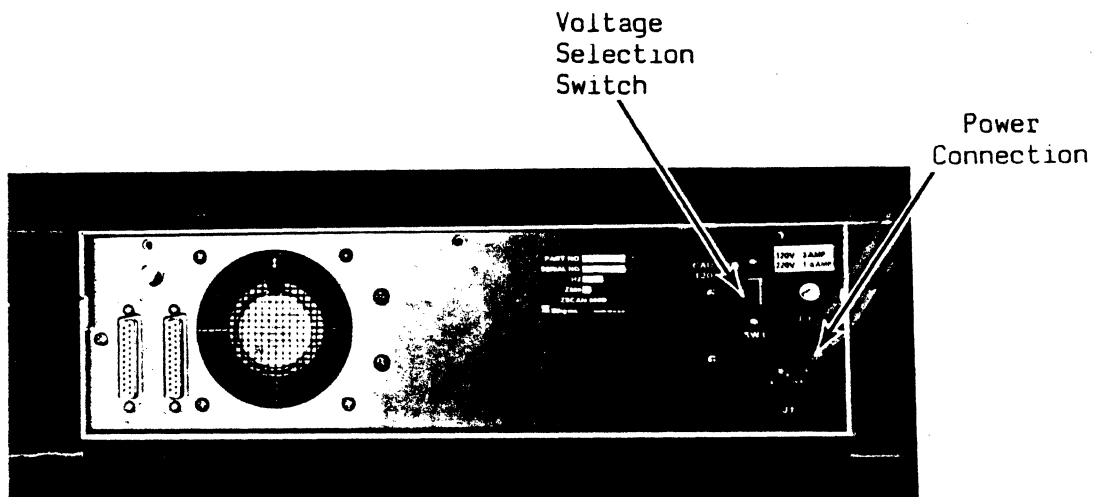

Figure 3-4. Z-SCAN Rear Panel
2. Locate the 115/220 voltage selection switch on the Z-SCAN rear panel and verify that it is set correctly for the electrical power source to be connected to the Z-SCAN system. Refer to Figure 3-4 for the approximate location of the voltage selection switch.
The U.S. power cord meets the U.S. National Electrical and Manufacturing regulations and is suitable for use in the United States only. This power cord is identified by the molded plug attached to the cord and is ready to be connected to the Z-SCAN unit. Figure 3-4 identifies the location for the power connection on Z-SCAN's rear panel.
1. Set the voltage selection switch (rear panel of Z-SCAN) to the proper setting for your facility. The two settings on Z-SCAN's voltage selection switch are 115 and 230. See Figure 3-4, Z-SCAN Rear Panel.